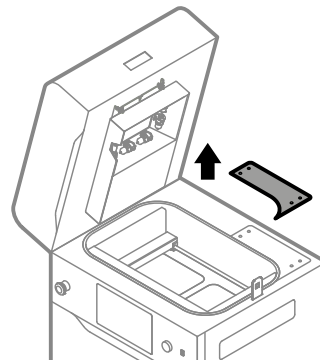

Fig. 13.67 Remove the access panel.
9. Remove the access panel on the top side of the printer (fig. 13.67).